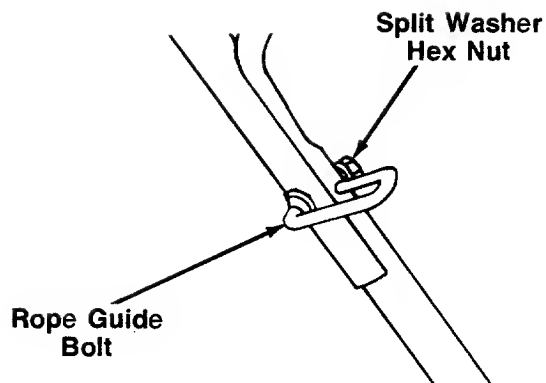

FIGURE 3.
3. Insert the rope guide bolt through the right hand side of upper and lower handle. See figure 3. Secure with split washer and hex nut, finger tight only.